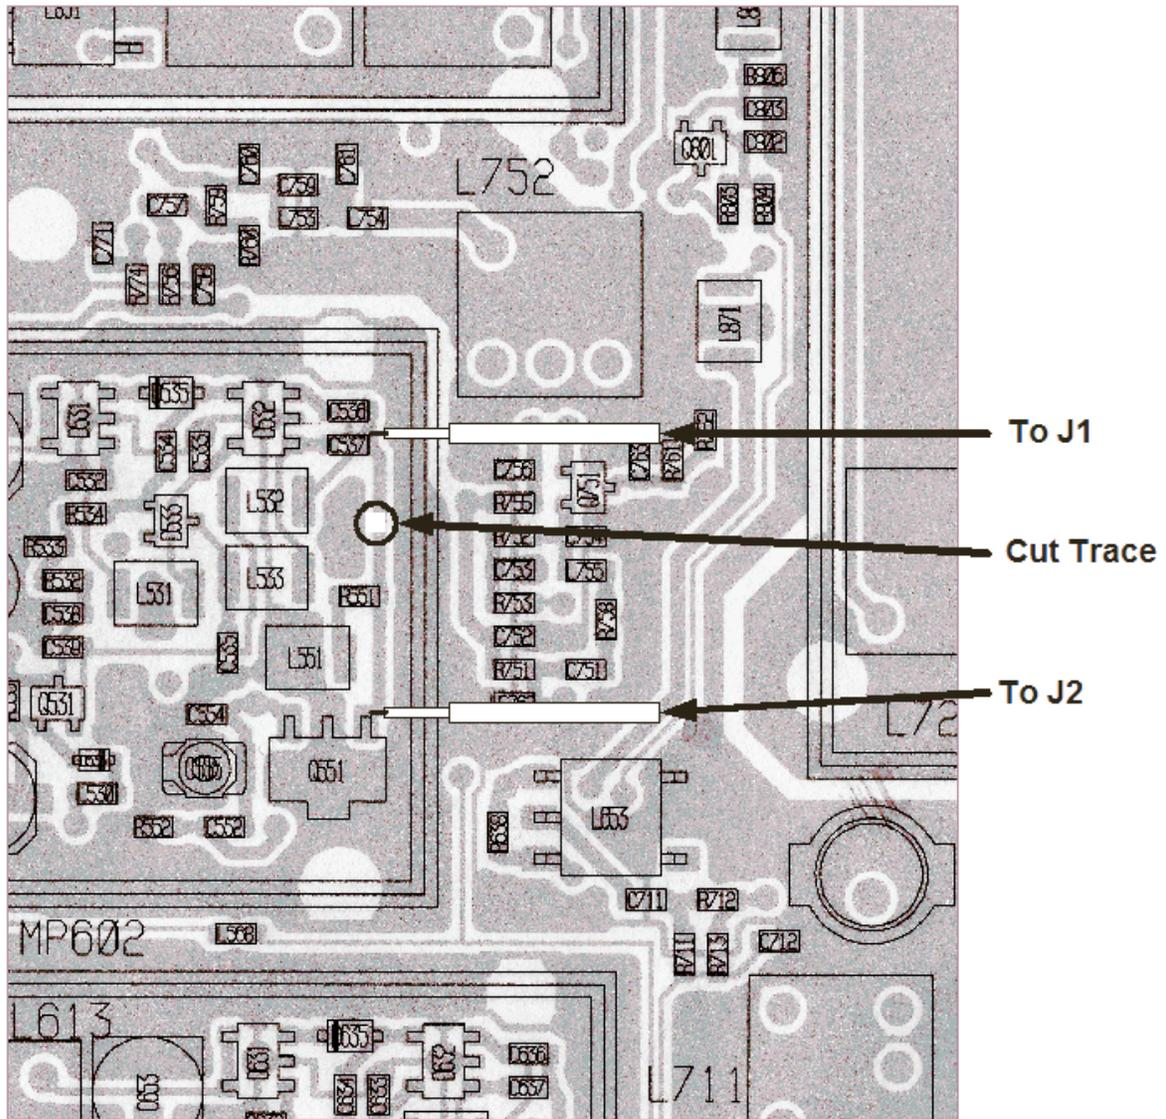

Figure 4. Preparation of coax cable.
6. Prepare one side of each coax cable by stripping about ½ inch of outer covering and shield from the end. Strip about 1/8 inch of insulation from the center conductor. Using the bare wire supplied, form a small loop and insert the coax end. Push the loop up close to the shield and run a bead of solder around it. Next, prepare the opposite side of each coax cable to accept a TMP connector by stripping about ½ inch of outer covering and shield. Strip about 1/4 inch of insulation from the center conductor. Insert the center conductor into the TMP connector center pin and solder it in. Then take the dressed braid and solder it to the connector outer shield. The cables should now be ready for the installation. See Figure 4 for more information on the cable preparation.